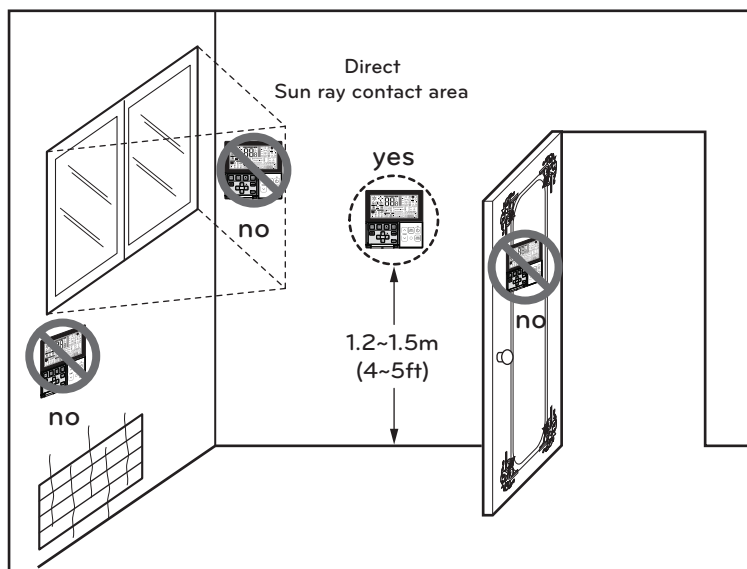

Figure 5 Typical locations for remote controller
- This remote controller is equipped with a seven segment LED display. For proper display of the remote controller LED's, the remote controller should be installed properly as shown in Fig.5. (The standard height is 1.2~1.5m(4~5ft) from floor level.)